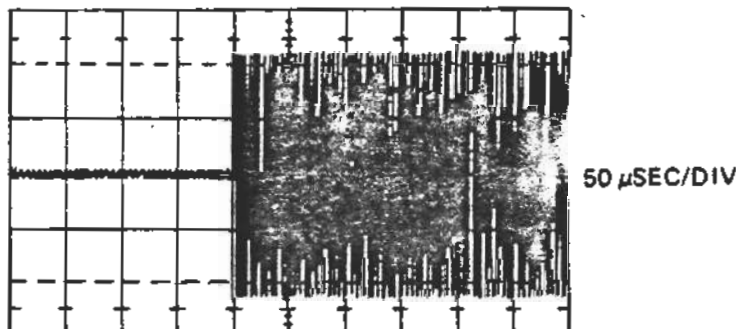

Figure 6-6 Index Pulse and Data Burst
- f. The start of the data burst should lag the negative-going edge of the index pulse by  $200 \mu\text{sec} \pm 50 \mu\text{sec}$ . (Figure 6-6)